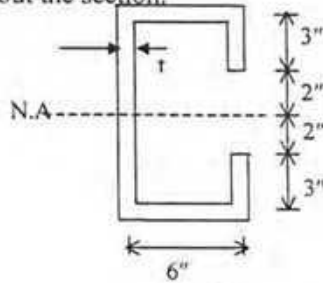

Fig. 8
Q9. Determine the location of the shear center of a thin-walled section shown in Fig. 8. The thickness t is constant throughout the section. (10)